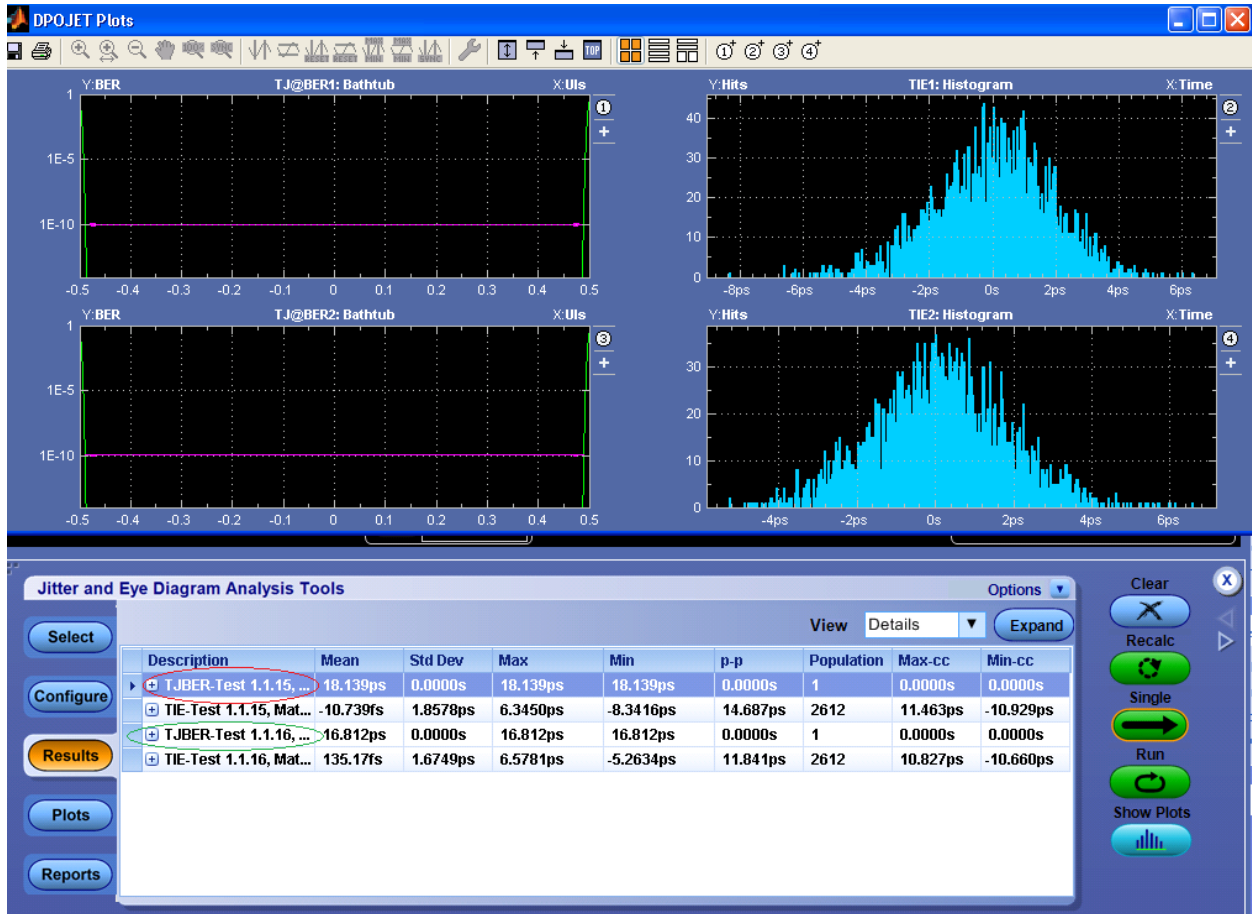

Figure 4 Total Jitter
3. Click Single to capture and run the measurements. If need be adjust the trigger level to capture the waveform. Expect a result shown in Figure 4 below.
6. The result example in the Figure 4 is for a Gear1A signal. UI_{HS} for Gear1A = 800 psec.